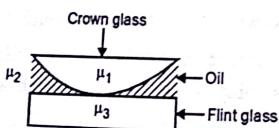

Fig. 1.11.1
(2) Why Newton's rings are always seen on reflected side?
(3) How insertion of liquid affects ring structure?
- In case of reflected system, the central spot can be made bright if the space between lens surface and glass plate is filled with an oil having refractive index greater than that of lens and smaller than that of plate. Fig. 1.11.1.